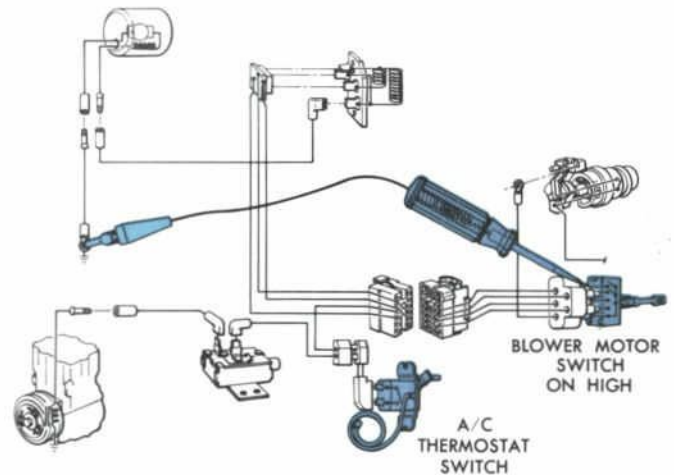

Fig. 17 — Testing Blower Switch-To-Thermostatic Switch Lead
5. The next test point is at the blower switch output terminal which connects to the thermostatic switch (Fig. 17). If the light glows at this point, replace or repair the green lead or its connection.